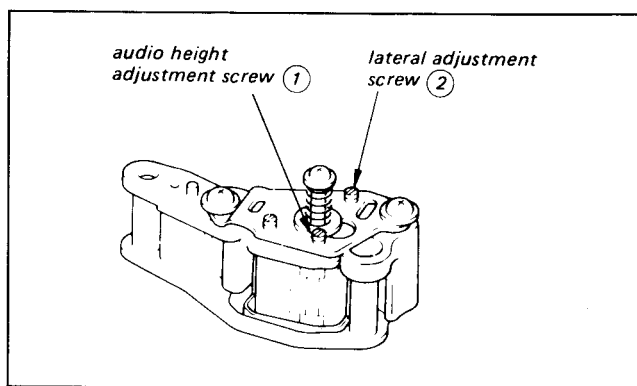

Fig. 4-16.
- 3) Mark the currently set positions for the audio-head height adjusting screw and the lateral adjusting screw shown in Fig. 4-16, and the azimuth adjusting screw shown in Fig. 4-11.